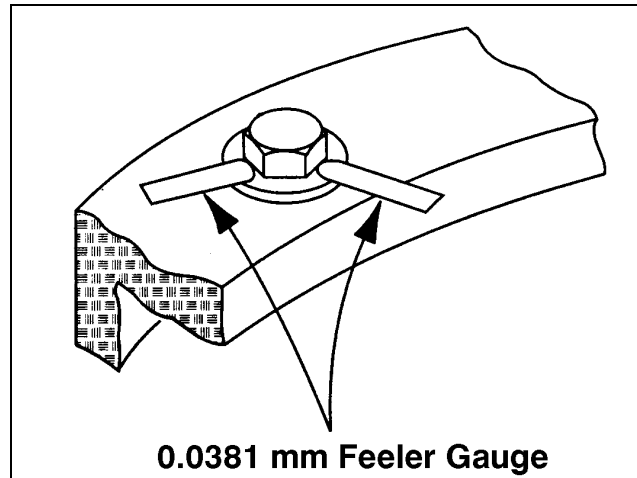

Figure 2-30. Swing Bearing Feeler Gauge Check.
- b. At the positions indicated on Figure 2-30. try and insert the .0381 mm feeler gauge between the bolt head and hardened washer at the arrow indicated position.
- d. At the position indicated on Figure 2-30. try and insert the .0381 mm feeler gauge between the bolt head and hardened washer at the arrow indicated position.